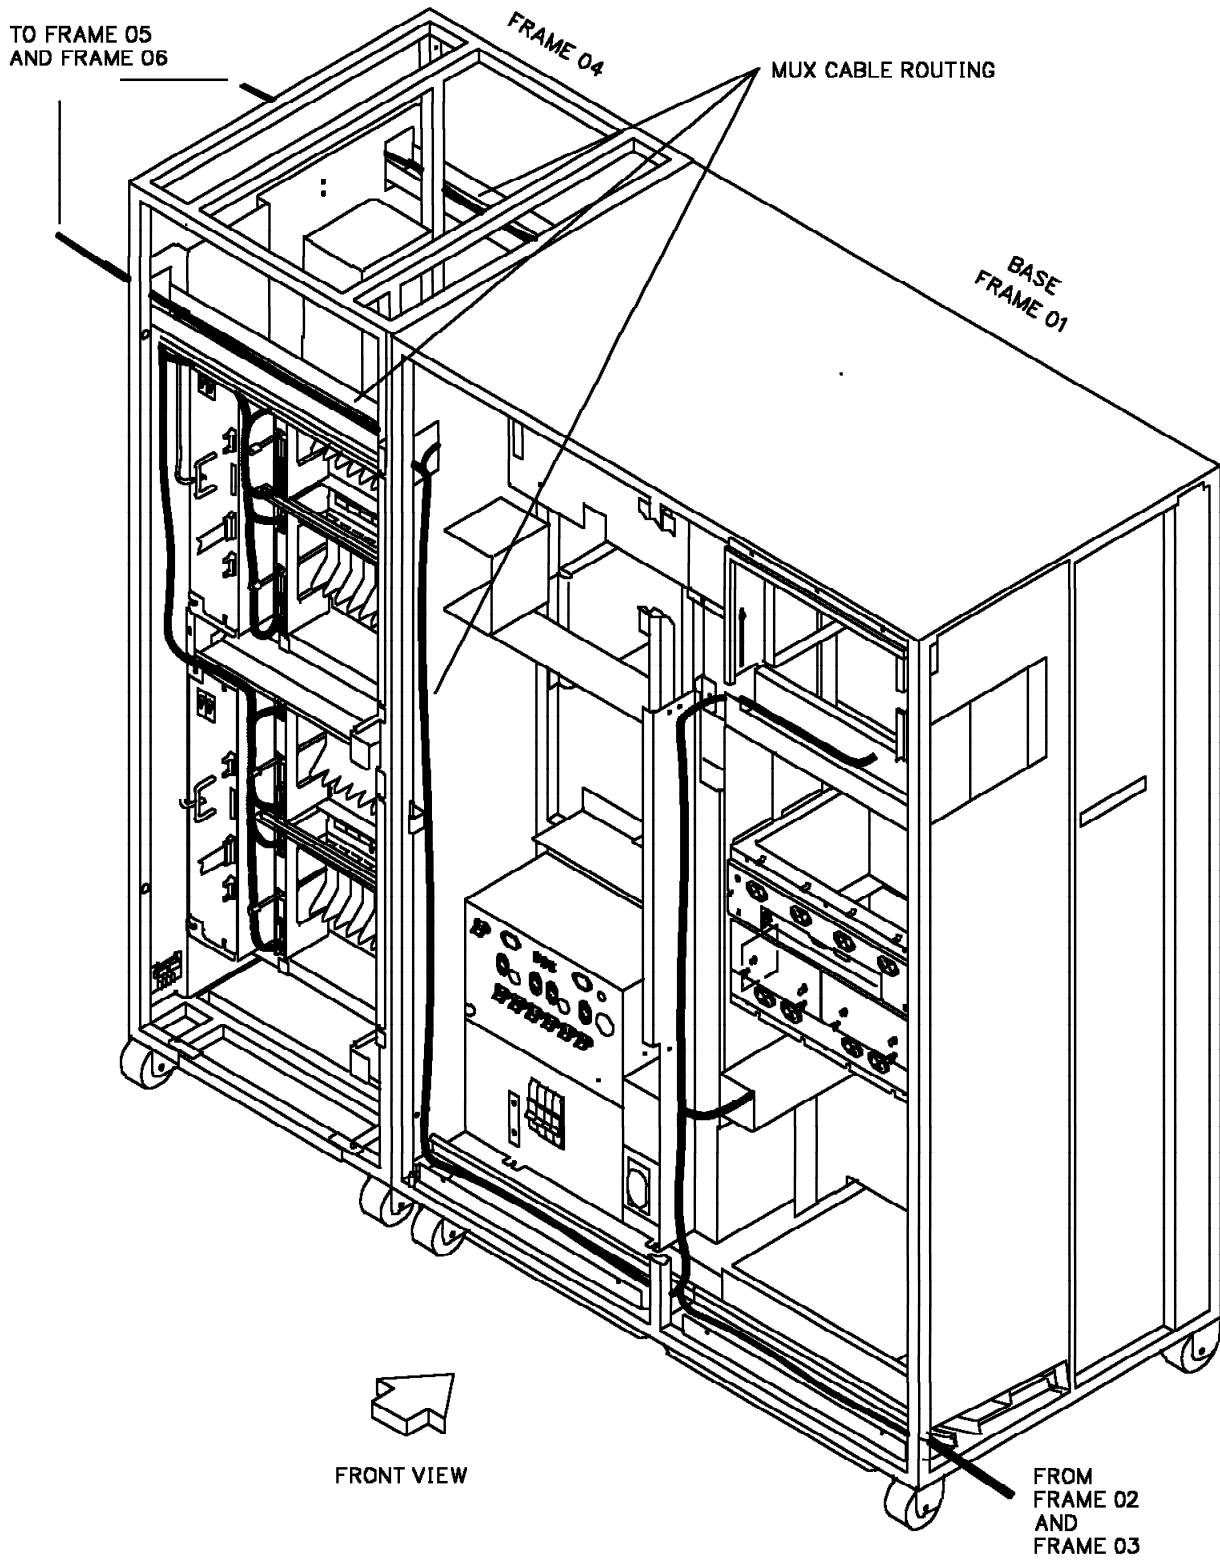

Figure 7-9. MUX Cable Path from the 3745 to the 3746-L Units (Front View)
- Figure 7-9 on page 7-10 (front) and Figure 7-10 on page 7-11 (rear), which show the MUX cable routing between the 3745 and the 3746-L units.